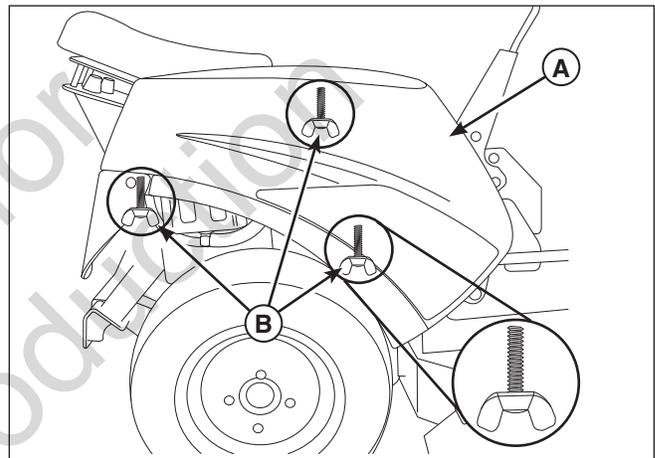

Figure 56. Removing the Tank
2. Remove the right tank (A, Figure 56) from the unit by unscrewing the three (3) wing bolts (B) from the tank and pulling the tank off the unit.
9. Position the left fuel tank (**A**, **Figure 56**) onto the machine and secure in place using the three (3) bolts, lock washers and washers (**B**).